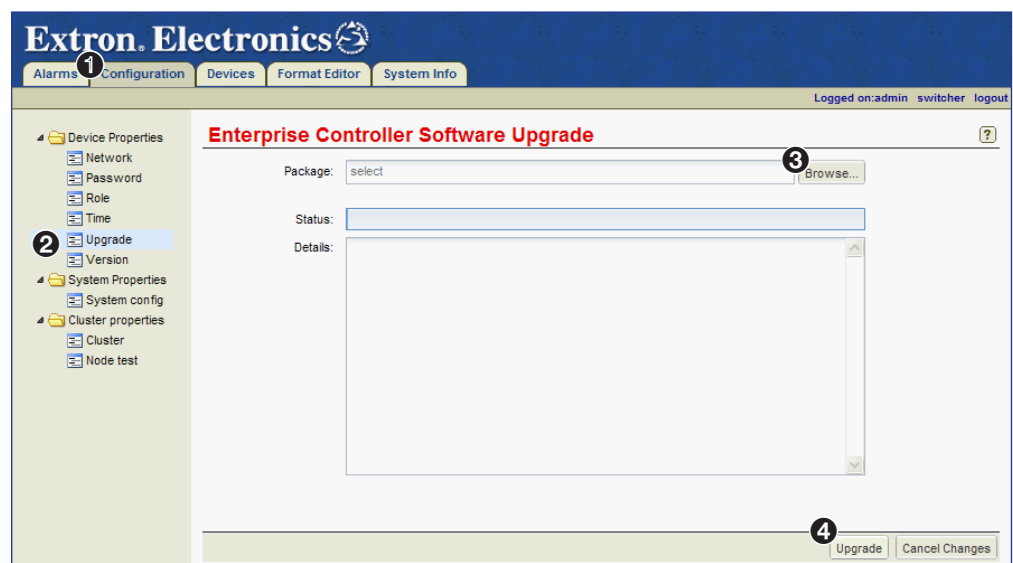

Figure 173. Configuration Page — Primary Controller Configuration Page
2. Click the **Configuration** tab (see figure 173, ❶).
3. Click the **Upgrade** link in the left panel (see figure 173, ② on the previous page).
4. Click **Browse** (③), and use the file browser to navigate to the firmware file location. Select the file and click **Open**.
5. Click **Upgrade**, (④).